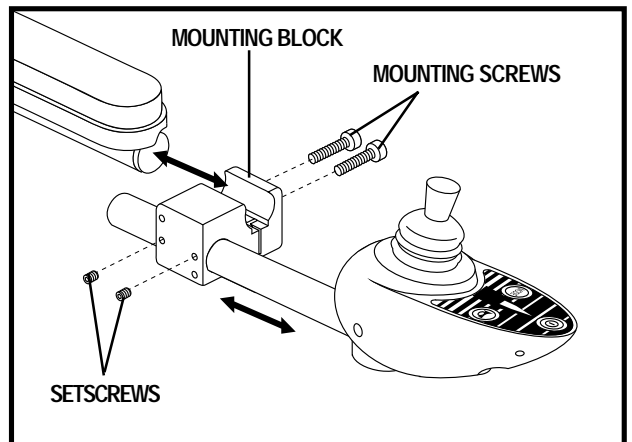

Figure 17. Adjusting Controller Position (Mounting Block)
4. Loosen the mounting screws in the controller mounting block. See figure 17.